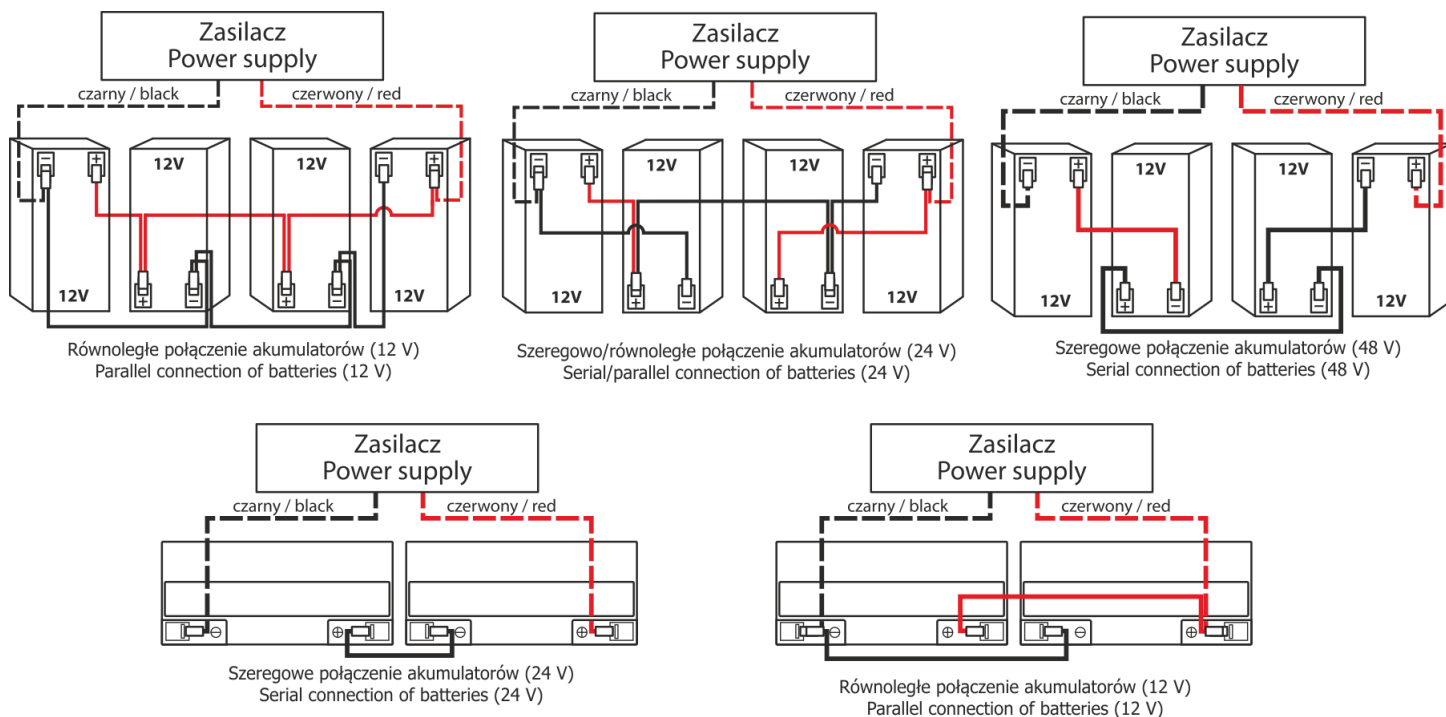

Fig. 1. Battery connection methods.
2. Connect the batteries with the battery wires paying attention to the polarity (+ BAT red, -BAT black) and the required connection method (see Fig. 1)